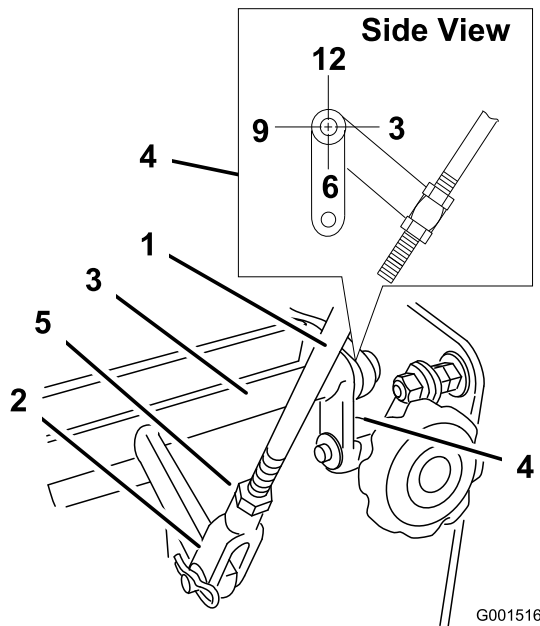

Figure 35
4. Check the orientation of the tabs on the ends of the speed control crank. These tabs should be pointing straight down at the 6 o'clock position approximately (Figure 35).
5. Adjust the threaded yoke at the bottom of the speed control linkage until the tabs are at the 6 o'clock position (Figure 35).